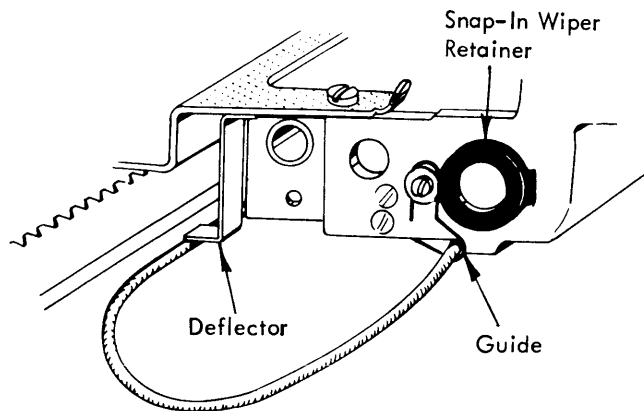

FIGURE 86. Carrier Cable Guide
- b. **Carrier Cable Guide** - Position the cable guide horizontal and as high as possible without binding the cable against the carrier (Fig. 86). This adjustment holds the cable up as high as possible yet allows it to slide freely front and rear as the carrier moves along the writing line.
- c. **Carrier Cable Deflector** - Form the deflector front or rear to prevent the cable from getting behind the carrier (Fig. 86). Check along the entire writing line to make certain that the deflector does not rub on the powerframe.